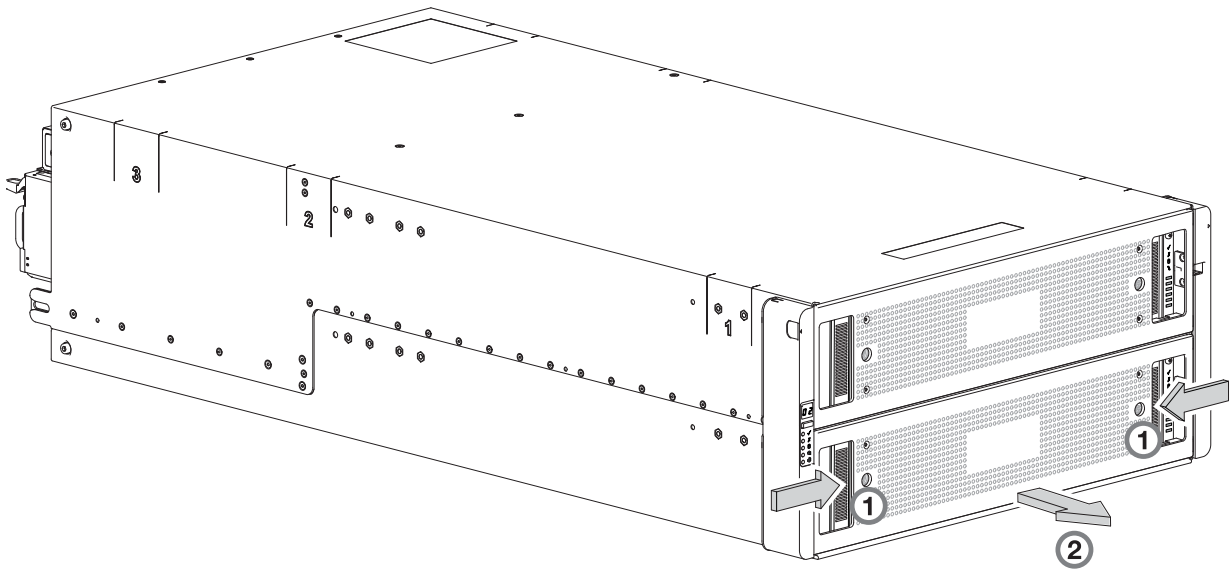

Figure 102 Opening a drawer (1 of 2)
2. Push the drawer latches inward and hold them as shown in Figure 102.